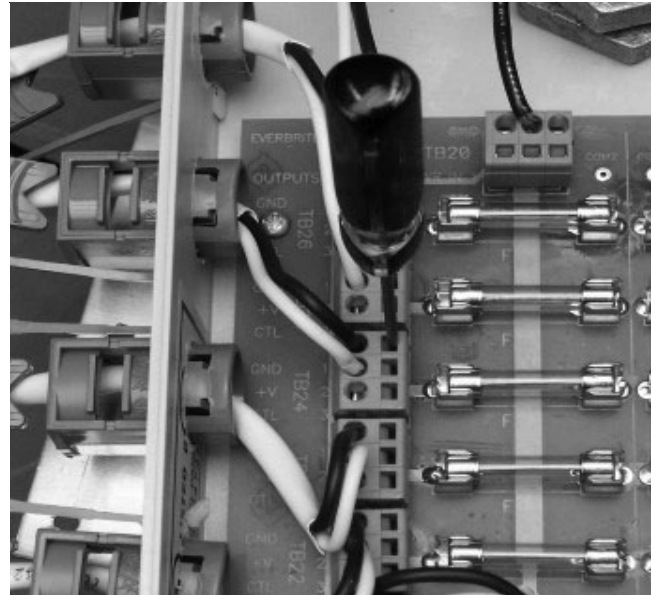

Figure 13: Install Source Cable Wire
5. To install wire into the terminal block, take a small flat head screw driver and push back the tab. See figure 13